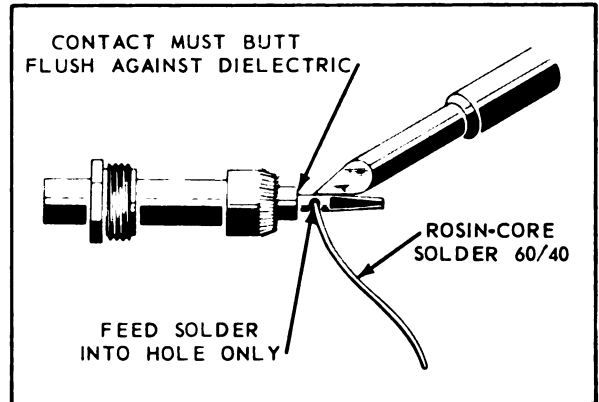

Figure 4-12. Soldering Contact to Coaxial Cable
4-24. Solder contacts (male or female) to center conductor with clean, well tinned, soldering iron using 60/40 tin-lead, rosin-core solder. See figure 4-12.
4-29. **SOLDERING PROCEDURE.** See section IX for general soldering procedures and precautions. For soldering cable to RF connectors, use only 60-40 tin lead solder with a core of rosin flux. Heat the parts to be joined, and apply the solder at the junction of the soldering iron tip and the work as shown in figure 4-12. Do not apply heat longer than is necessary to melt the
j. Slip contact over center conductor so that contact butts flush against dielectric. For RG-62/U and 71/U add bushing. Solder, using a clean, well tinned, soldering iron- contact must still be flush against dielectric after solder has cooled; if it is not remake the joint. See figure 4-12.
i. Solder contact to center conductor. See figure 4-12. Remove excess flux and solder from outside of contact.
k. Slip contact over center conductor so that contact butts flush against dielectric. Solder, using a clean, well tinned soldering iron; contact must still be flush against dielectric after solder has cooled; if it is not, remake the joint. See figure 4-12.